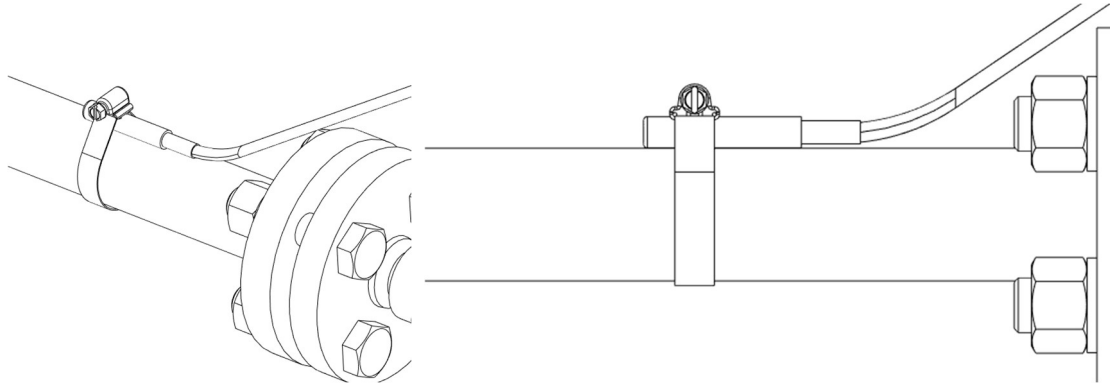

Figure 10.- Temperature sensor fixing on a pipe
3. Tighten the sheath from the temperature sensor (10)(11) with the metal clamp pre-installed. Ensure sufficient thermal contact for an accurate temperature measurement as can be shown in Figure 10.